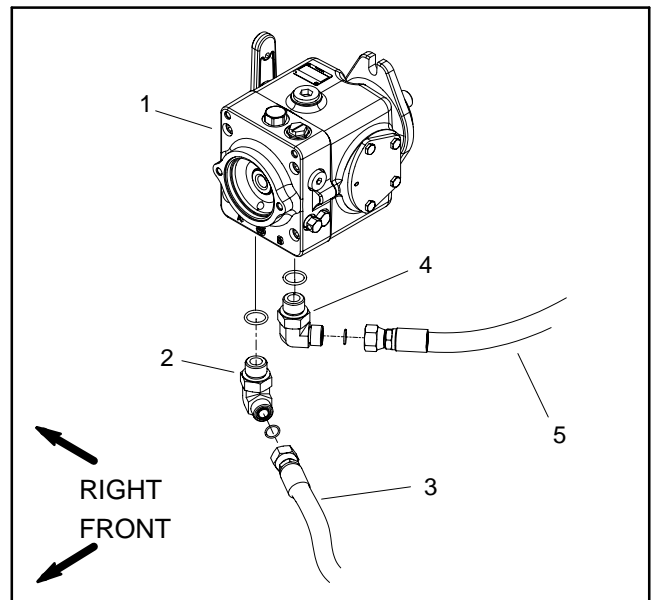

Figure 42
8. Thoroughly clean junction of hydraulic hose and **right** side elbow fitting on bottom of traction pump (Fig. 42). Disconnect hose from right side pump fitting.